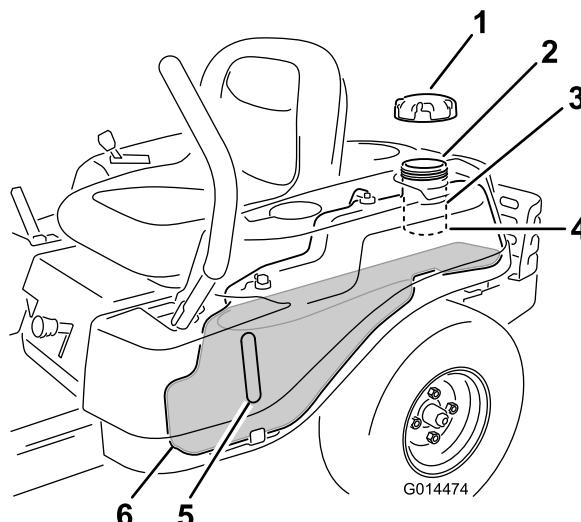

Figure 9
Note: You can use the fuel window to verify the presence of gasoline before filling the tank (Figure 9).
2. Slowly add gasoline until the fuel reaches the base of the filler neck (Figure 9).